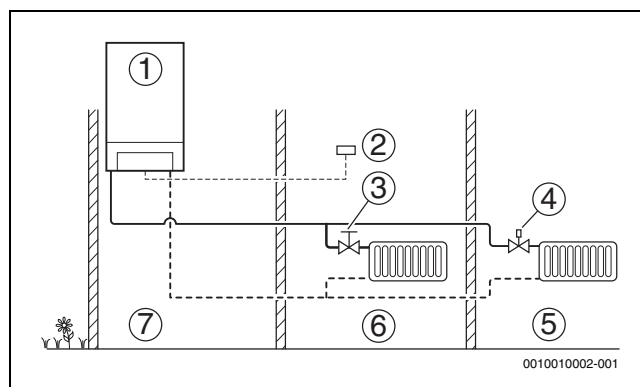

Fig. 24 Control principle of room temperature-dependent control
- In the case of room temperature-dependent control, the user interface in 1 room controls the temperature required within it (room temperature-dependent controller). In order to control the temperature correctly, radiators must be equipped with manual radiator valves or the thermostatically controlled radiator valves must be fully open (→ figure 24).